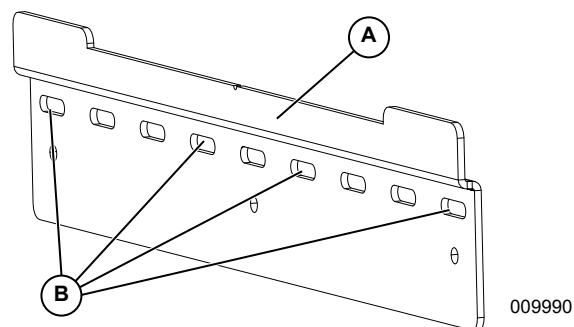

Figure 4-2. Installing Mounting Bracket
3. See **Figure 4-2**. Secure bracket (A) to mounting surface. Fasteners must engage at least two studs or other structural members.